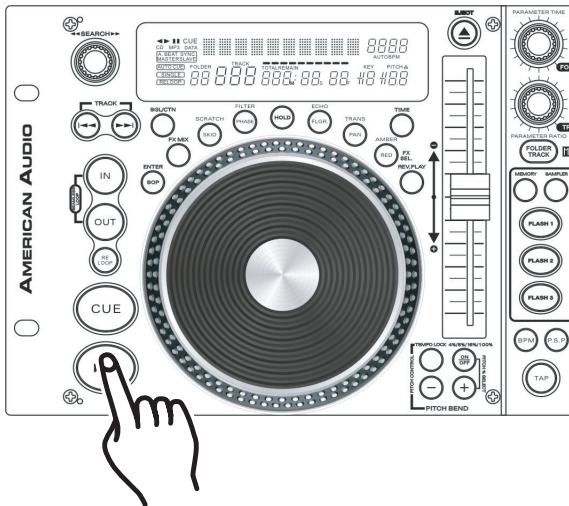

Figure 30
- 1) Press the *PLAY/PAUSE BUTTON* (23) so music is playing (Figure 30).